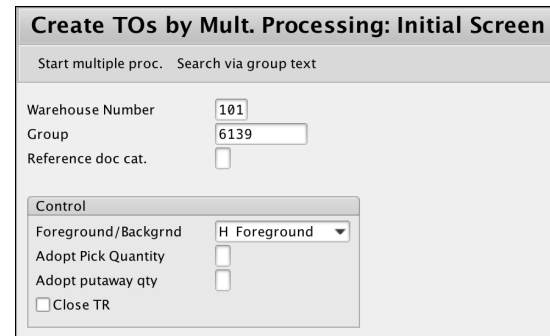

Figure 4.26 Create TOs by Mult. Processing: Initial Screen
1. To create the individual transfer order, go to **Logistics • Sales and Distribution • Shipping and Transportation • Picking • Create Transfer Order • Collective Processing**, as shown in Figure 4.26, or go to Transaction LT42 and enter the group number. It's a prerequisite that all transfer orders for consolidated picking are confirmed at this time.